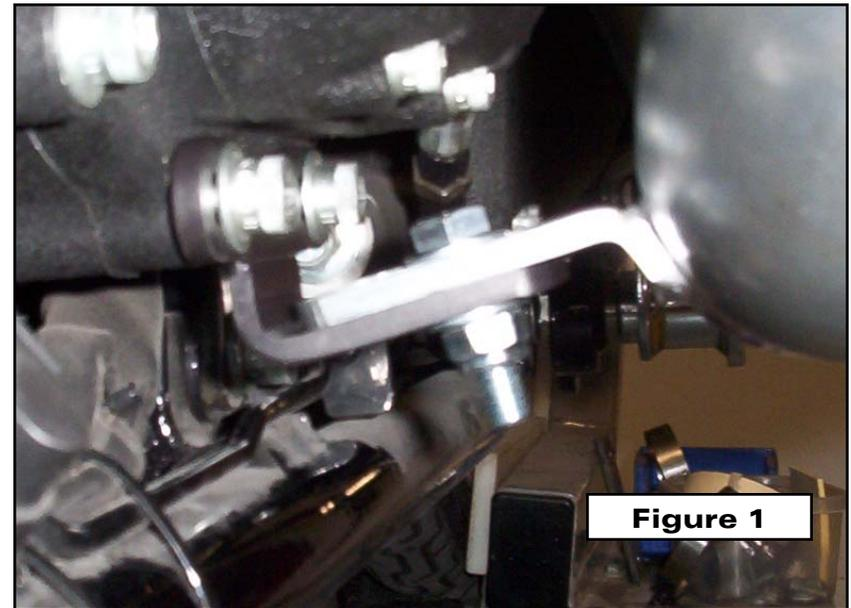

Figure 1
2. Remove the bottom two bolts from the transmission cover. Install the new mounting bracket using the 1 ¼" long socket head bolts and flat washers supplied. Leave both bolts loose so that the bracket can slide back and forth freely. (See Figure 1)
5. Install the head pipe using the stock flange nuts. **DO NOT TIGHTEN.** For six speed models align the bracket on the pipe on top of the transmission mount bracket. For five speed transmission models, align the bracket on the head pipe to the bottom side of the transmission mount. Install the 5/16 bolt and flat washer through the slot from the top. Install a flat washer and lock nut on the bolt. (See Figure 1) **DO NOT TIGHTEN.**